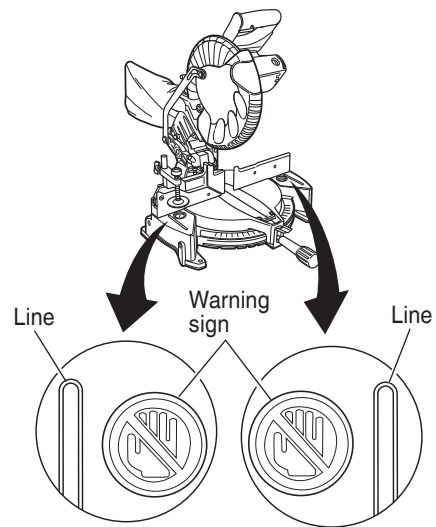

Fig. 19
- * Never place your limbs inside of the line next to warning sign while the tool is being operated. This may cause hazardous conditions (see Fig. 19).